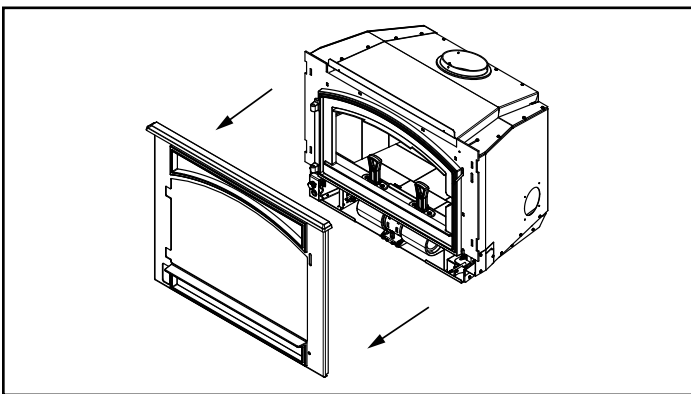

Figure 5.8
3. Remove face by lifting up then out away from appliance and set aside laying it onto a protective surface (Figure 5.8).